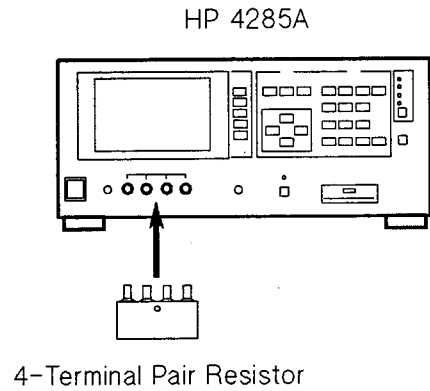

Figure 2-18. 0 m Adjustment Setup
5. Perform the 0 m Adjustment according to the program's instruction. Figure 2-18 shows the 0 m Adjustment setup.